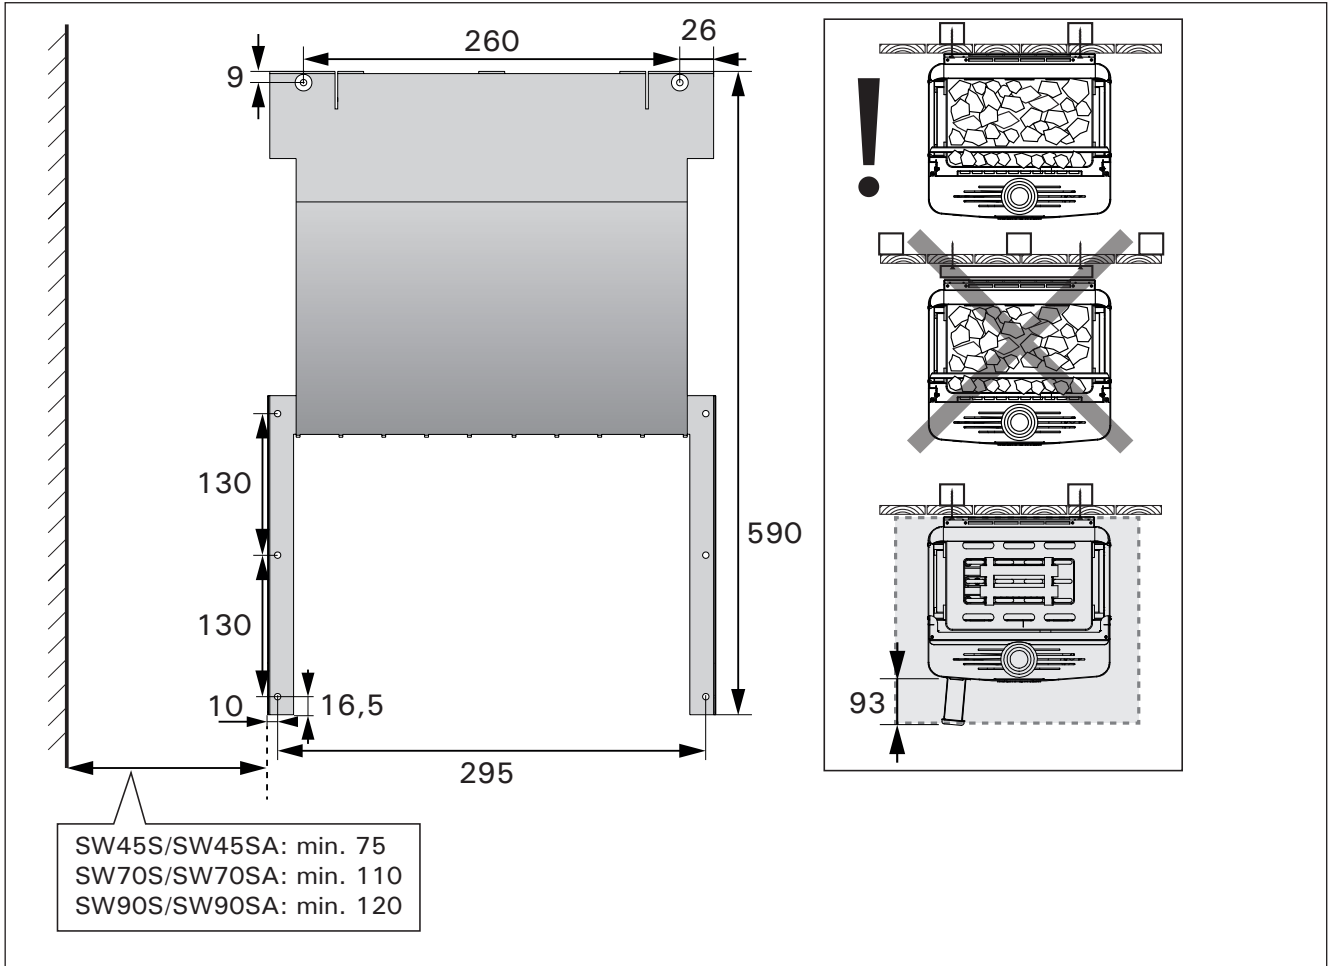

Figure 6. Wall mount (measurements in millimeters)
2. Install the wall mount horizontally to the wall using suitable fasteners. Make sure that the heater is supported not only by the wall panel (figure 6). Take note of the floor's slope. Using the wall mount ensures the 80 mm safety distance.